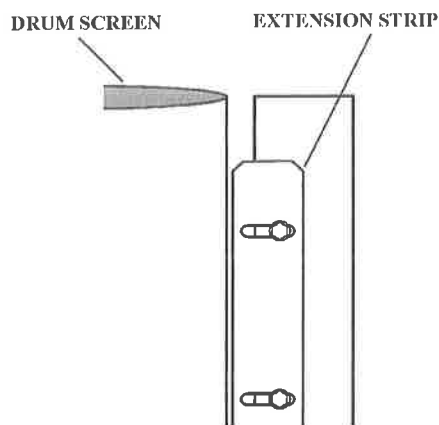

FIGURE 2-3. EXTENSION STRIP
- B. If the grinder has a drum screen, vertical extension strips are located on the support frame to adjust the gap between the support frame and the screen drum. The extension strip mounting holes are slotted. Loosen the bolts that secure the extension strip(s) and move each strip toward the screen drum until it is as close as possible without touching the screen drum. Refer to Figure 2-3.